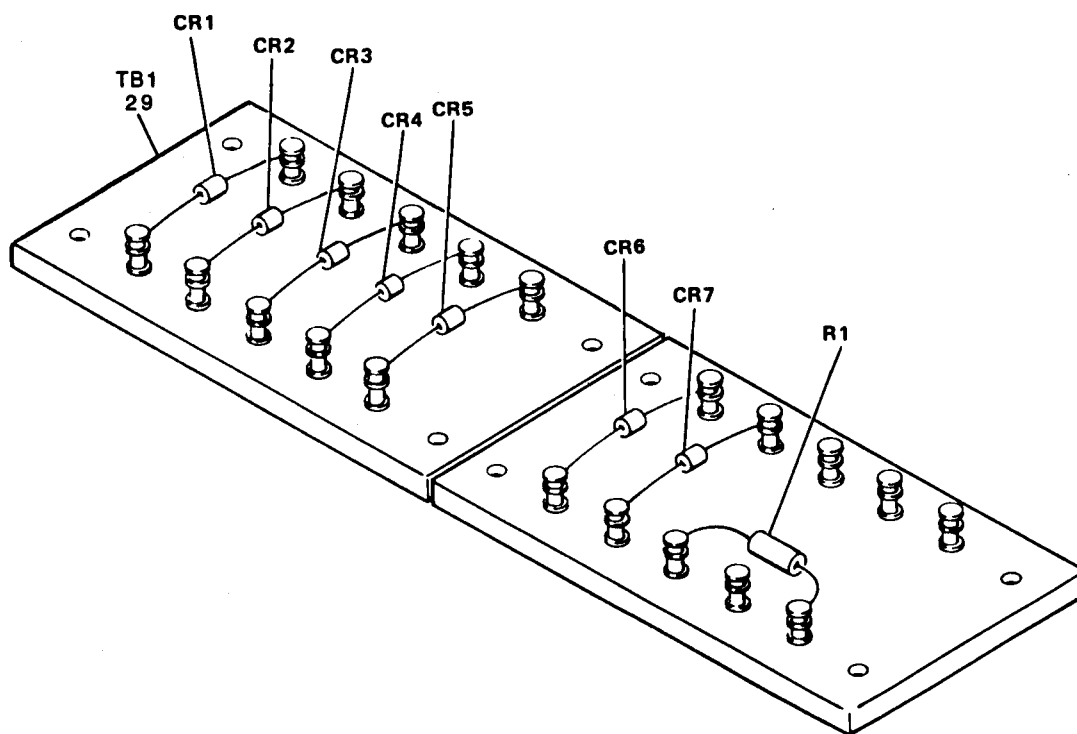

Figure 5-16. Terminal Board TB1 Component Locations
- (1) Remove top cover (2) in accordance with paragraph 5-12a.
- (2) Tag all wiring connected to TB1 (29), then unsolder wiring.
- (3) Remove six screws (33), flat washers (34), and spacers (35) that secure TB1 to ECM bracket (36), then remove TB1.
- (4) To replace TB1, secure it to ECM bracket (36) with six screws (33), flat washers (34), and spacers (35), then solder wiring to terminals as tagged during removal.
- (5) Replace top cover in accordance with paragraph 5-12a.
- n. Terminal Board TB1 Component Replacement. Refer to figure 5-16 unless otherwise indicated and proceed as follows: